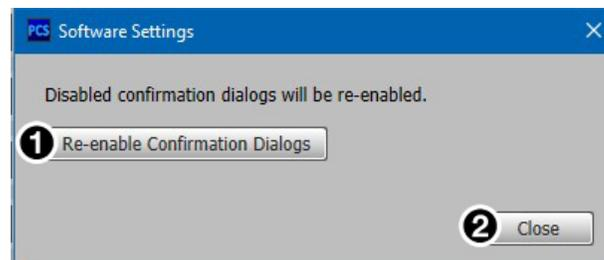

Figure 36. Software Settings Dialog Box
2. Click the **Re-enable Confirmation Dialogs** button (see figure 36, **1**). The dialog box closes and the reset is complete.